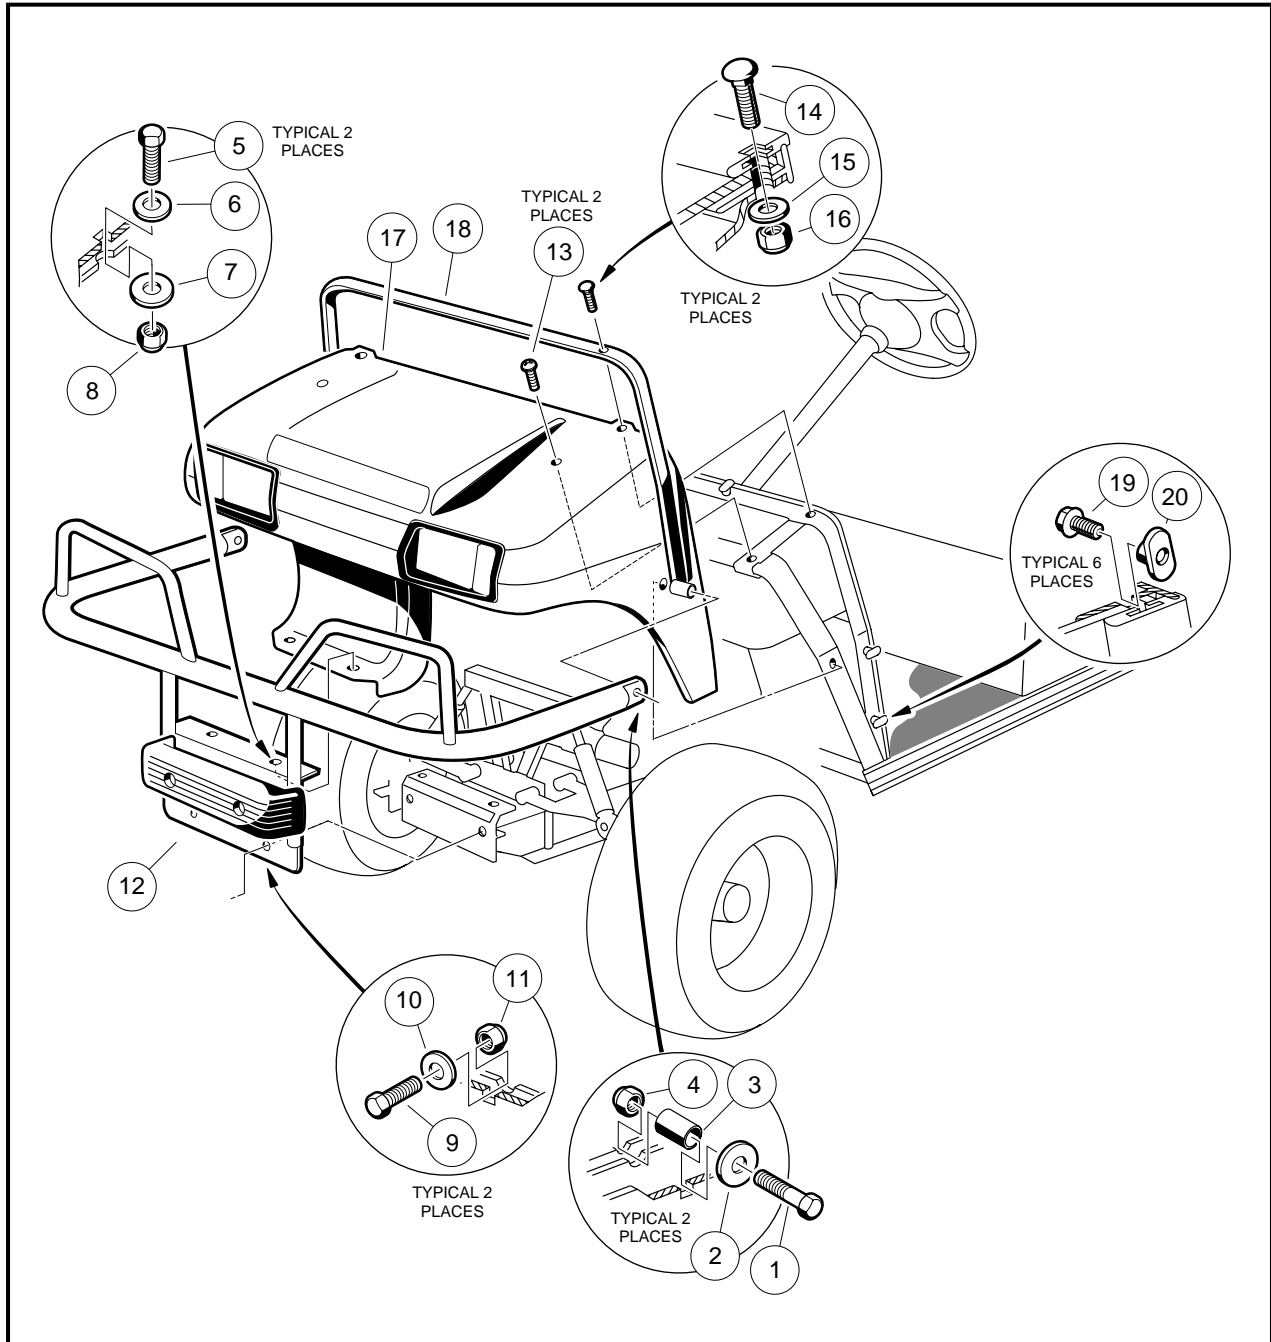

Figure 4-1 Front Body Assembly
1. Remove the two bolts (1), washers (2), locknuts (4), and spacers (3) from the mounting positions located on both sides of the front body (**Figure 4-1, Page 4-5**).
2. Remove the two bolts (5), locknuts (8), and washers (6 and 7) from the brush guard (**Figure 4-1, Page 4-5**).
3. Remove the two bolts (9), locknuts (11), and washers (9) from the brush guard support braces and remove brush guard from vehicle (**Figure 4-1, Page 4-5**).
- 1.1. Tighten the locknuts (11 and 4) to 14 ft-lb (19 N·m) **(Figure 4-1, Page 4-5).**
NOTE: If a new front body has been installed, two 3/4 inch holes must be drilled after the body has been placed on the vehicle. Use the brush guard mounting holes in the vehicle frame as a guide for drilling the holes **(Figure 4-1, Page 4-5)**. It is recommended that a pilot hole be drilled from the inside of the body panel. A 3/4 inch hole saw should then be used on the outside of the body panel to drill the final hole. Drill *only* through the body panel, and not through the vehicle frame.
3. Remove carriage bolts (14), locknuts (16) and washers (15) from front body trim. Remove screws (13) from top of front body **(Figure 4-1, Page 4-5).**
4. Loosen (do not remove) screws (19) holding front body trim against front body **(Figure 4-1, Page 4-5).**
5. Pull front body (17) from under trim (18) and remove from vehicle **(Figure 4-1, Page 4-5).**
1. Install front body (17) under trim (18), align holes and finger tighten screws (13) holding front body against frame **(Figure 4-1, Page 4-5)**. If installing a new front body, two 5/16 inch holes must be drilled after the body has been placed on the vehicle. Use the body trim (18) as a guide for drilling the holes **(Figure 4-1, Page 4-5).**
2. Install carriage bolts (14), washers (15) and locknuts (16) onto front body trim. Tighten bolts to 11 ft-lb (14.9 N·m). Tighten screws (13) to 20 in-lb (2.3 N·m) **(Figure 4-1, Page 4-5).**
3. Tighten screws (19) holding front body trim against front body to 17 in-lb (1.9 N·m) **(Figure 4-1, Page 4-5).**